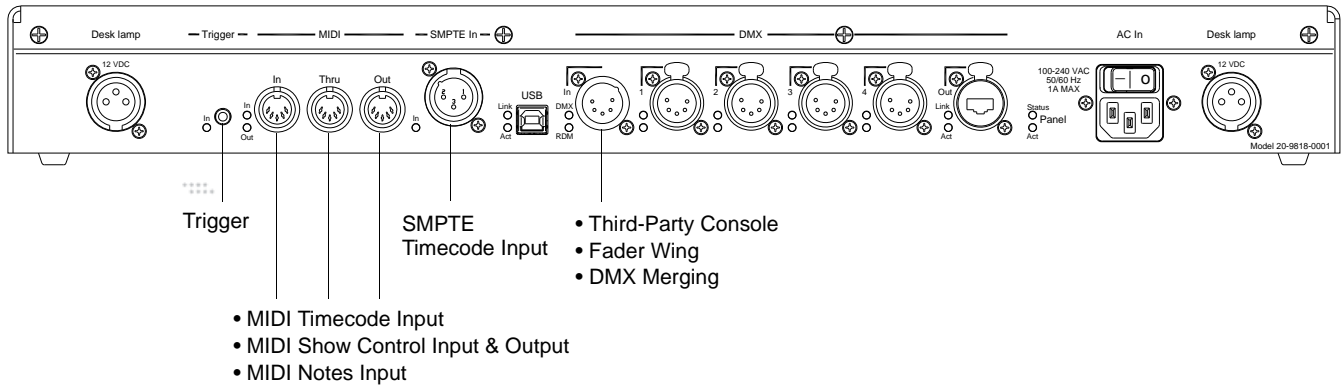

Figure 9: Connecting External Devices (Optional)
Step 8. Connect optional external devices as required (Figure 9).